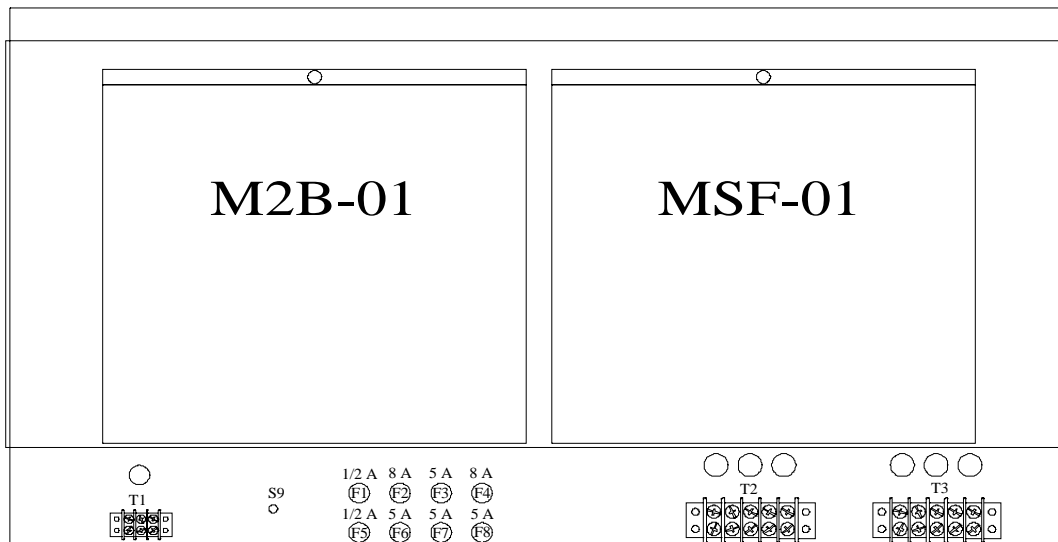

Figure 6 Access Panel Removed
4. Figure 6 shows the view behind the access panel.